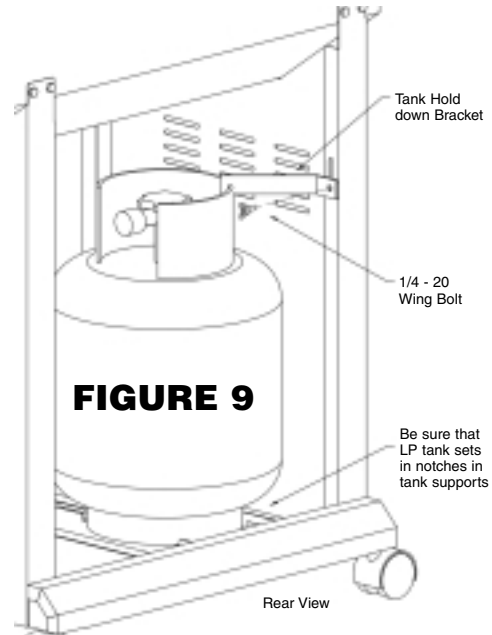

FIGURE 9
- Next attach and adjust downward the Tank- Hold-Down bracket (see Figure 9) to secure the tank. Secure with 1/4-20 x 1/2 wing bolt.